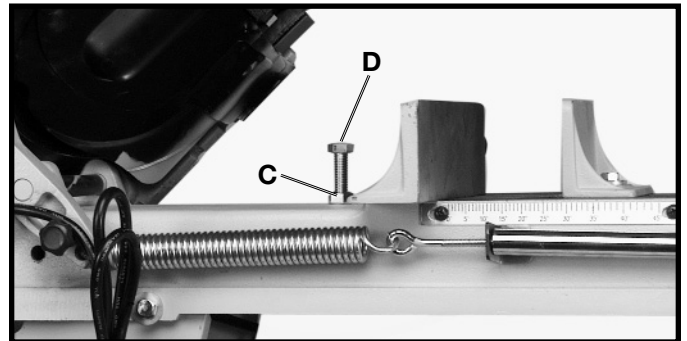

Fig. 15
The downward travel of the saw should be adjusted to just trip the toggle switch at its lowest position. To adjust the downward travel of the saw arm, loosen lock nut (C) Fig. 15, and turn the stop screw (D) in or out until the correct adjustment is made; then tighten lock nut (C).